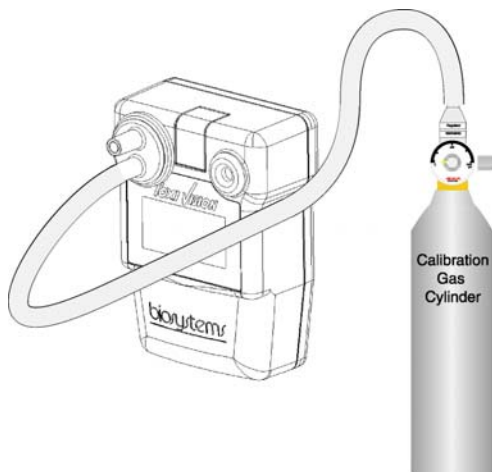

Figure 3.2: Proper bump-test/span calibration set-up
4. Apply calibration gas containing a known amount of CO₂ as shown below in figure 3.2.
1. Connect the cylinder of calibration gas containing 0 PPM CO₂ to the ToxiVision IR CO₂ as shown above in figure 3.2 and flow gas to the instrument for about 30 seconds until the reading stabilizes.
2. Apply calibration gas as shown above in figure 3.2. Once calibration gas is detected, the readout will change to show the gas reading.